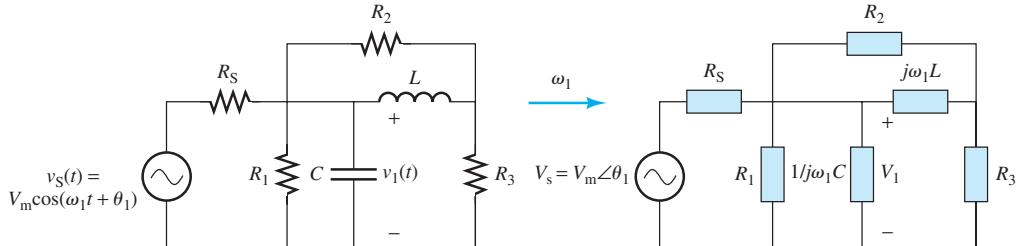

FIGURE 6.25 Circuit for Example 6.18.
1. Set $i_S(t)$ to zero and obtain the response $v_1(t)$ to $v_S(t)$. The corresponding circuit is illustrated in Figure 6.25.